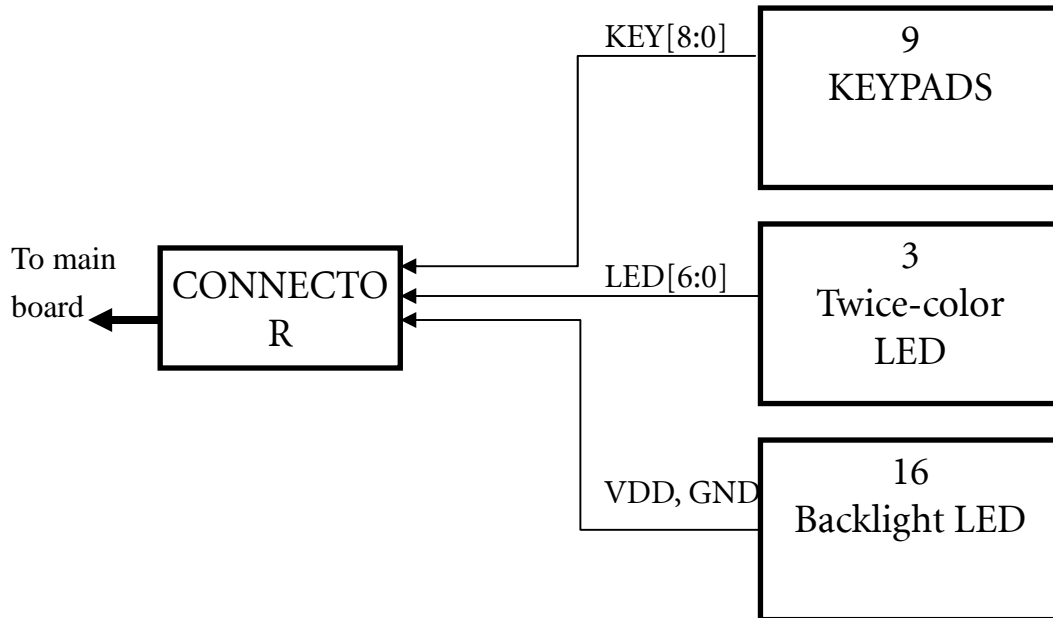

Figure 3 Keypad board BLOCK DIAGRAM
- (1) Keypad function: There are 9 keypads on top case. Please see Figure 3. MCU does polling on these signals [KEY8:0] to detect the key pressing action. Each key pressing action will request MCU to execute the specified program.
- (2) Indicator LED function: There are 3 twice color LED on top case. MCU releases the status of program indication by setting LED signal LED[6:0]. It will show the power status, lamp status, and temperature status.
- (3) IR remote function: There are two IR receivers, one is at the front side, and the other one is at back side. The receiver sensor has 3 legs, pin1 is output, pin2 is ground, and pin3 is VCC (5V). The output pin is pulled high, and will sink to low when it receives infrared signal coming from remote controller. MCU will decode the signal and execute related program.
- (4) USB function: There is a B type USD terminal for mouse port at back side. MCU supports the universal serial bus version 1.1 in a slave mode only.
(5) OSD function: DDP ASIC generates the On-Screen Display. Please refer to C212 Software Specification.